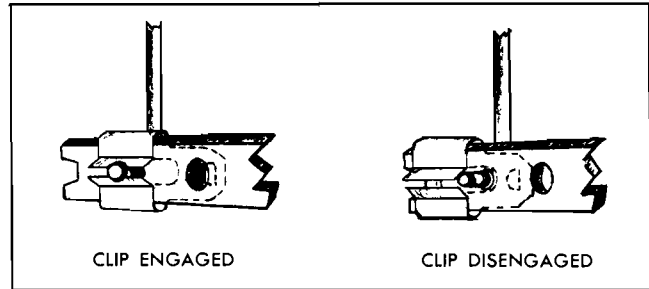

Fig. 10A-40 Door Lock Spring Clip
2. Depress retainer slightly and turn retainer one-quarter turn. Remove retainer, spring, push button and shaft and sealing ring from handle (Fig. 10A-41).